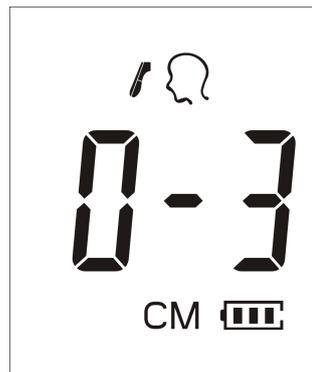

Figure 4
① When the measurement distance is over 3 cm, the screen displays "0-3", please approach forehead to measure, as shown in Figure 4